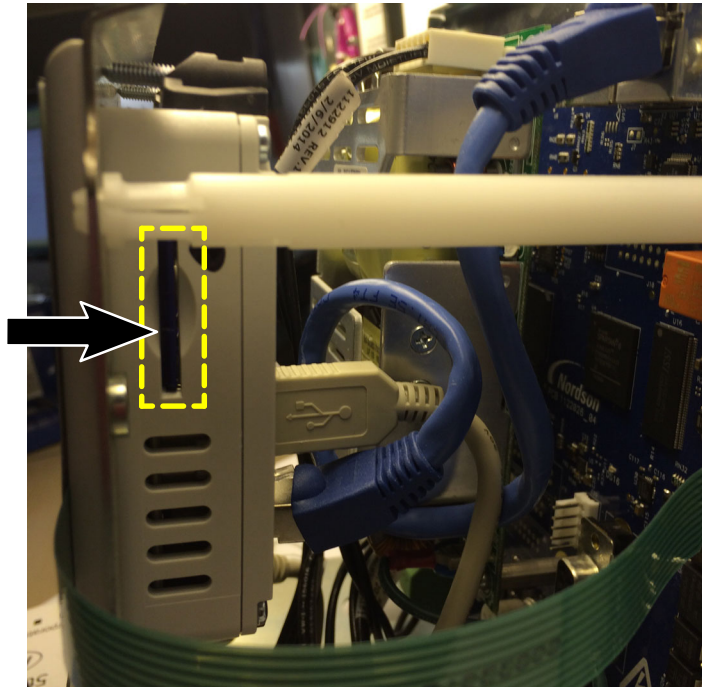

Figure C-3 Pattern controller right side view with cover removed, displaying touch screen SD card location
1. Reinstall both SD cards with the latest software onto their respective locations. For SD card locations see figures C-3 and C-4.